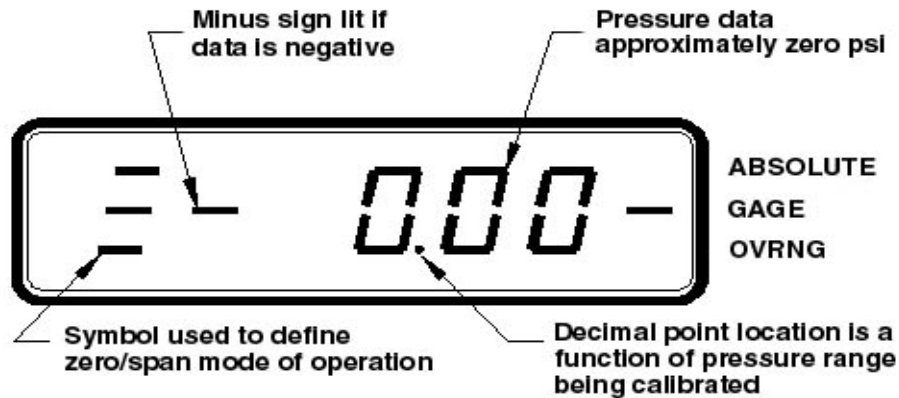

Figure 3-2. Zero/Span calibration for Absolute/Gage Unit
In the calibrate mode, the UPC5000/UPC5010's numerical display is used to provide operator prompting symbols as well as displaying the various data formats. For example, in Figure 3-2, the data format shown is that obtained as soon as the ZERO/SPAN position of the rotary switch is selected.
Selecting the *ZERO/SPAN* position on the Condec Calibration Module (PN 60109) places the instrument into its *ZERO/SPAN* calibration mode. The display is shown in Figure 3-2.
1. Set the Condec Calibration Module (PN 60109) to the *ZERO/SPAN* position (see Figure 3-2 on page 9 for display reading).
4. Turn the DISPLAY SELECT switch (16) to the *CURRENT* position. Display will read 20.000.